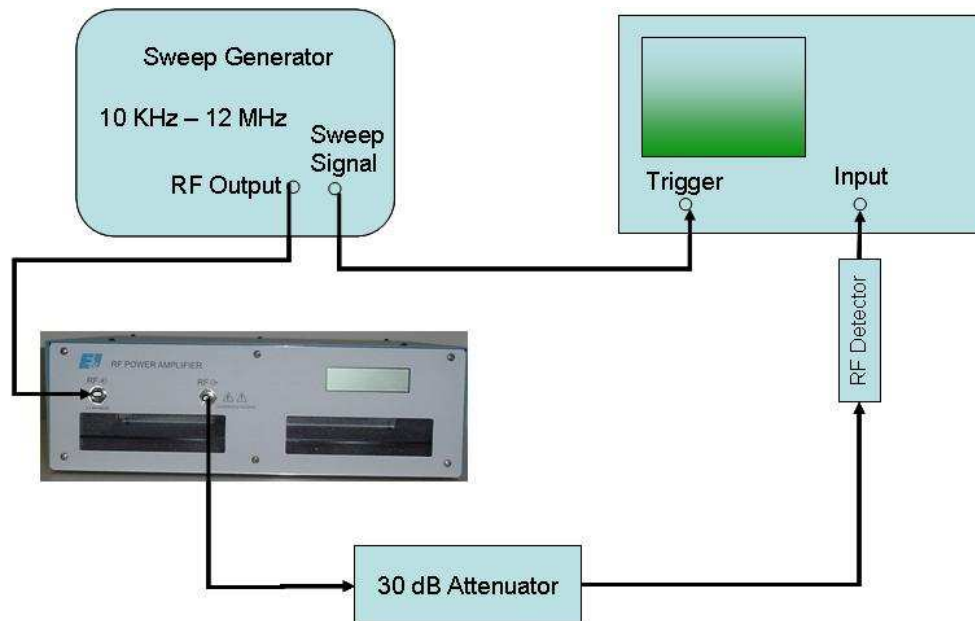

Figure 4-1. Gain Measurement
2. Connect the equipment as shown in Figure 4-1, then proceed as follows:
- g) Reconnect the 2100L into the test set-up of Figure 4-1.